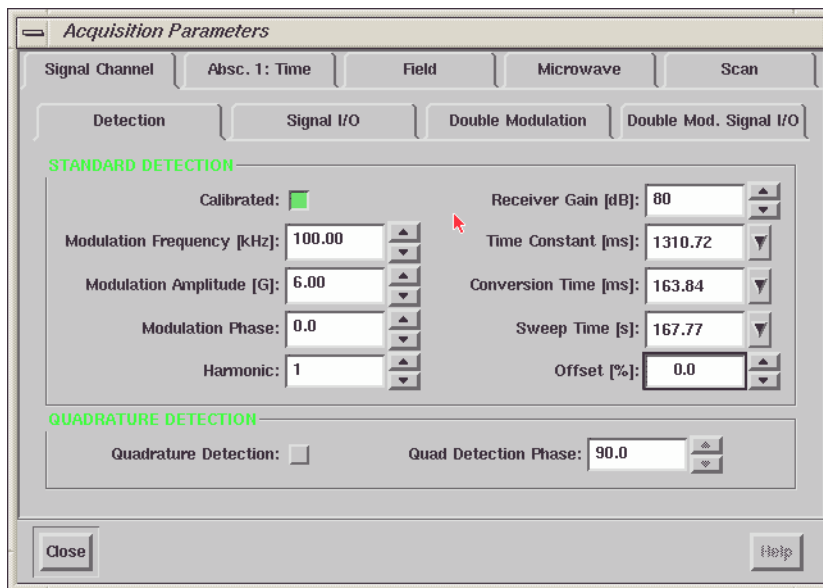

Figure 3-14 Setting the Signal Channel parameters.
7. **Set the Signal Channel parameters.** Click the Signal Channel tab to bring the folder to the front. Set the parameters to those shown in Figure 3-14 or consult Table 3-1. If the Receiver Level meter is off center, change the Offset to bring the needle back to the center.